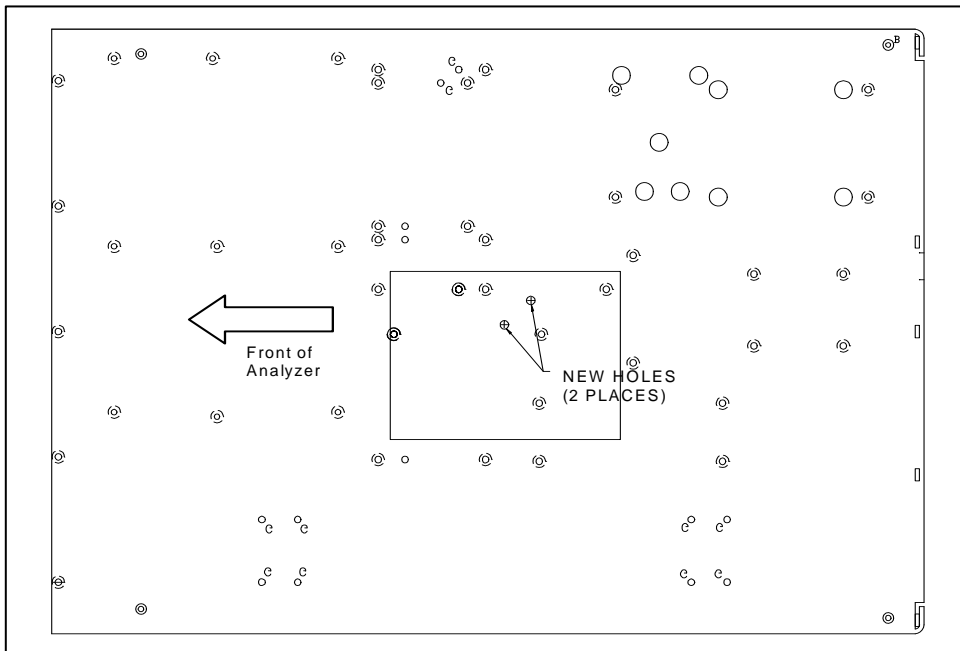

Figure 1
3. Lay the drill template on the underside of the chassis in the location shown in Figure 1. Carefully align the existing holes with the circles on the template and tape the template down.